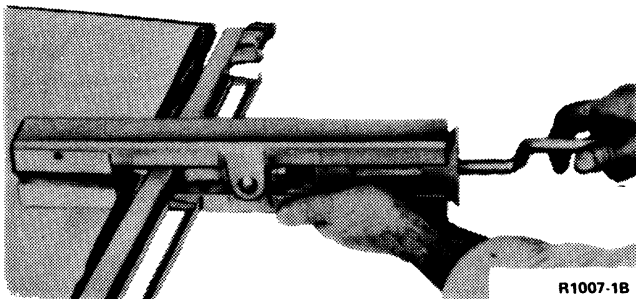

FIG. 1 Vent Glass Replacement
2. Push the glass from the glass frame with the tool shown in Fig. 1
2. Install the glass and new tape in the glass frame with the tool shown in Fig. 1.